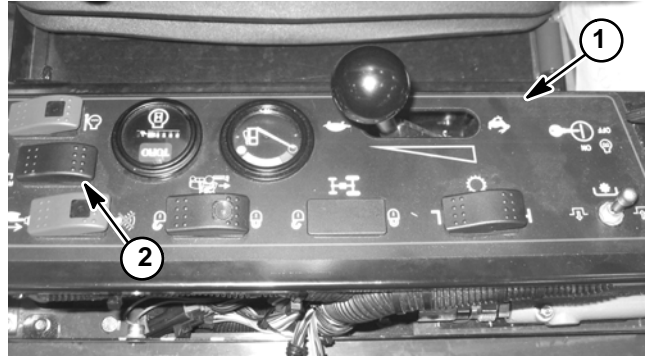

Figure 23
The cooling fan switch is used to control the operation of the hydraulic cooling fan and is located on the control console (Fig. 23). This switch has three (3) positions: Reverse, Auto and Forward.